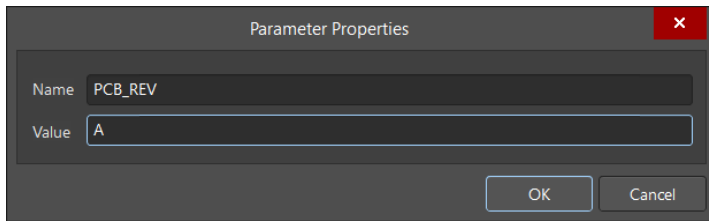

Figure 1. Adding a new Project Parameter
7. In the *Parameter Properties* dialog set the *Name* field to `PCB_REV` and *Value* field to `A`, as in Figure 1.